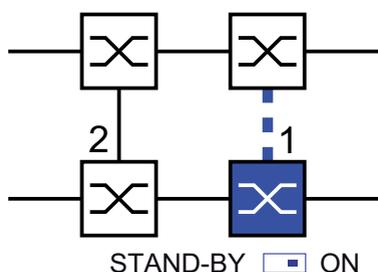

Figure 17: Two-Switch coupling
- Select "Two-Switch coupling" by means of the dialog button with the same graphic as below (see figure 17).